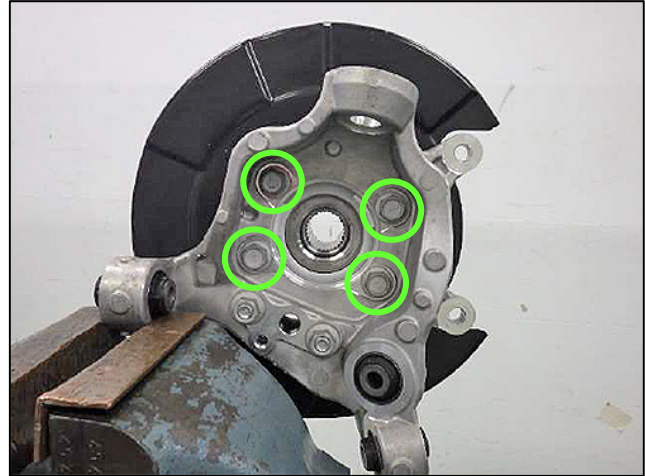

Figure 19
25. Remove the wheel hub bolts (Figure 19) from the rear knuckle, and then separate the wheel hub from the rear knuckle.